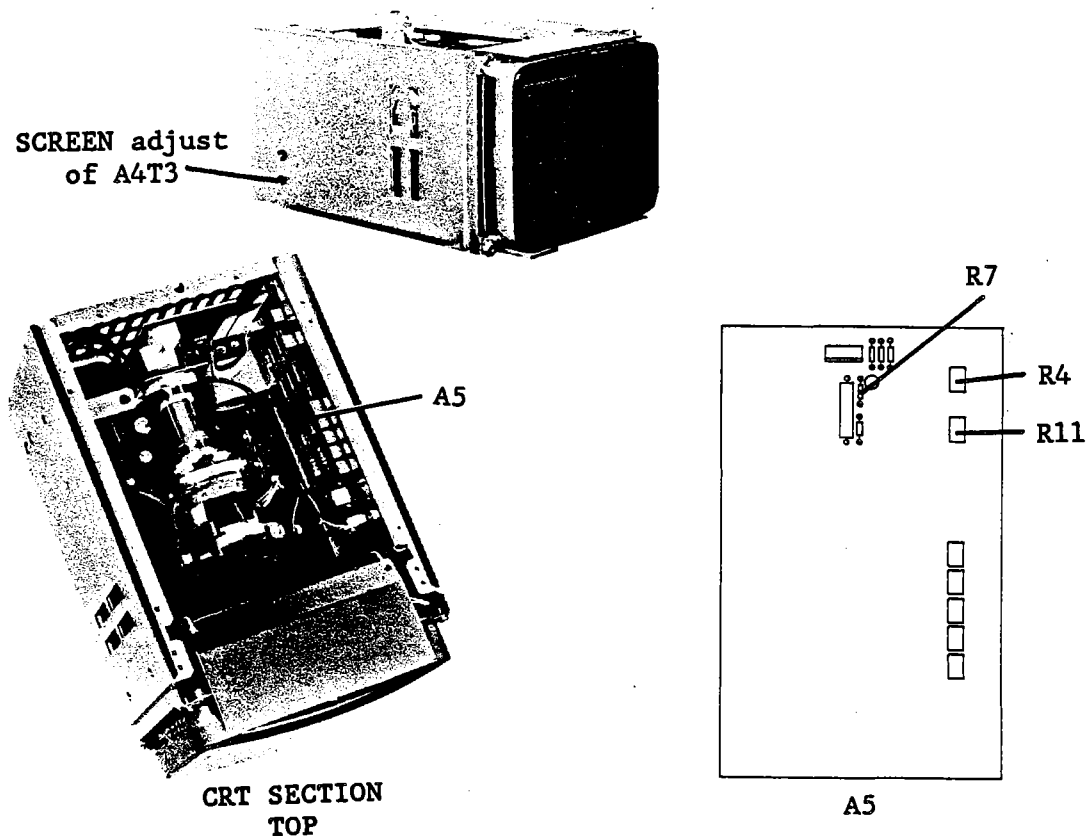

Figure 3-22. CRT Cutoff Adjustment Locations
5. Turn A4T3 (**SCREEN**) fully counter clockwise (CCW). See Figure 3-22 for the **SCREEN** adjustment location.